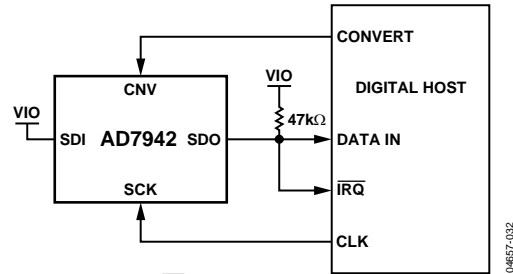
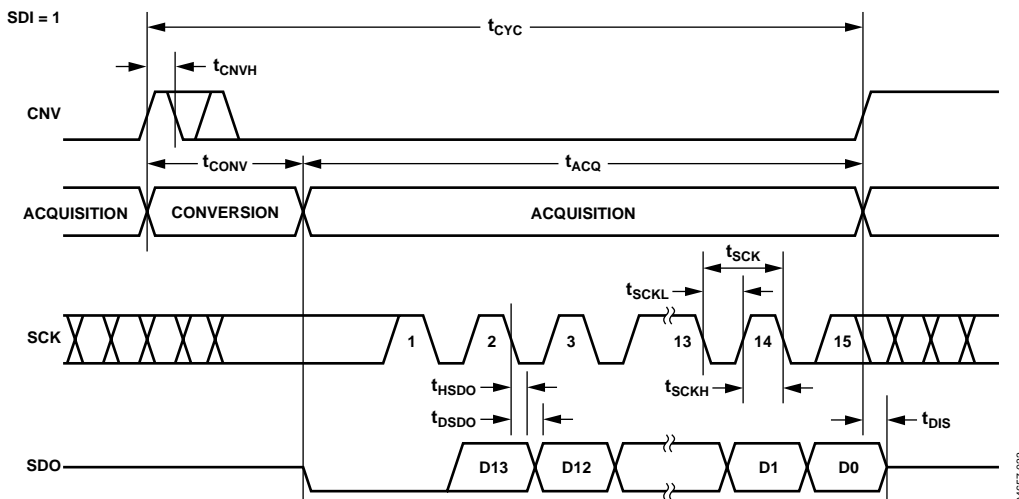
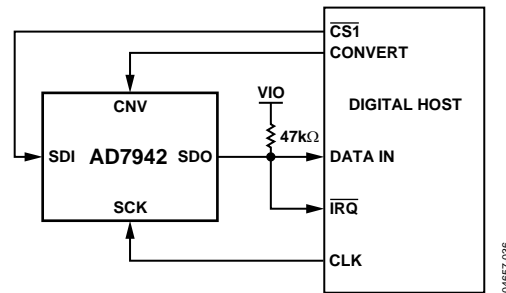
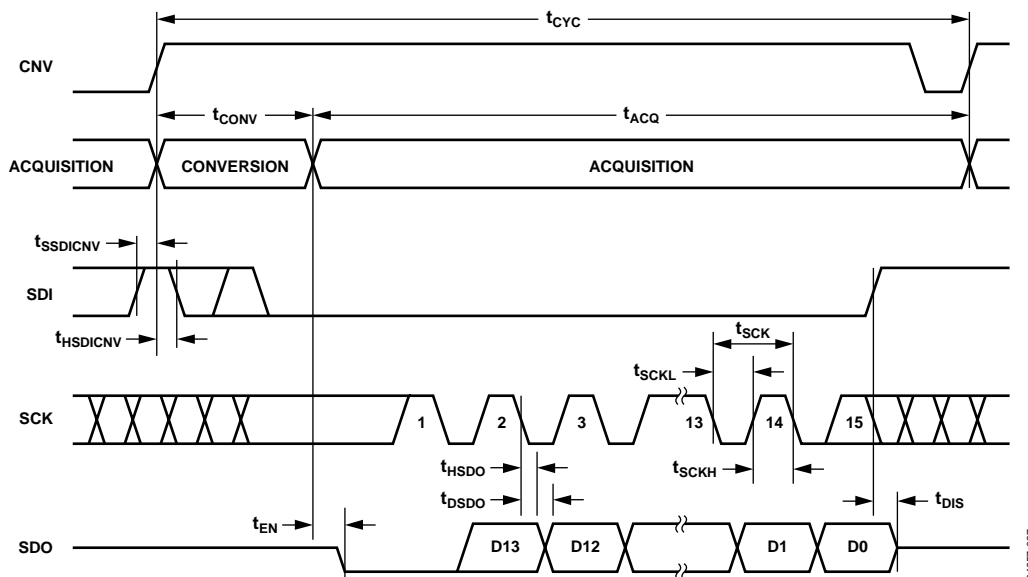

Figure 32. \overline{CS} Mode 3-Wire with Busy Indicator Connection Diagram (SDI High)
Figure 33. \overline{CS} Mode 3-Wire with Busy Indicator, Serial Interface Timing (SDI High)
Figure 36. \overline{CS} Mode 4-Wire with Busy Indicator Connection Diagram
Figure 37. \overline{CS} Mode 4-Wire with Busy Indicator, Serial Interface Timing
- In the \overline{CS} mode, if CNV or SDI is low when the ADC conversion ends (see Figure 33 and Figure 37).
This mode is usually used when a single AD7942 is connected to an SPI-compatible digital host with an interrupt input. The connection diagram is shown in Figure 32 and the corresponding timing is shown in Figure 33.
This mode is usually used when a single AD7942 is connected to an SPI-compatible digital host with an interrupt input and it is desired to keep CNV (which is used to sample the analog input) independent of the signal used to select the data reading. This requirement is particularly important in applications where low jitter on CNV is desired. The connection diagram is shown in Figure 36 and the corresponding timing is given in Figure 37.